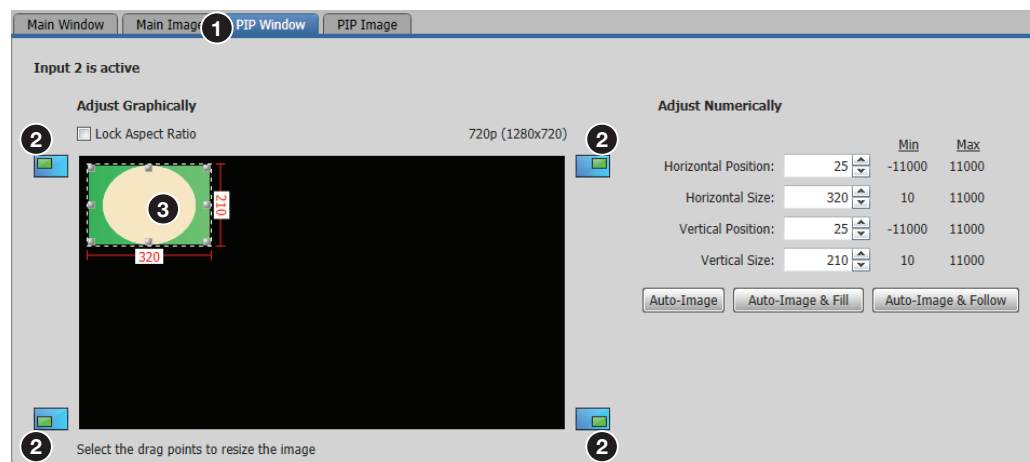

Figure 60. PIP Window Position
- Click the **Auto-Image** button (❺) to perform a one-time Auto-Image.
- Click the **Auto-Image & Fill** button (❻) to perform a one-time Auto-Image and fill the entire video output (ignores aspect ratio settings).
- Click the **Auto-Image & Follow** button (❼) to perform a one-time Auto-Image and to maintain the aspect ratio of the input signal (ignores aspect ratio settings).
For the PIP window (see figure 60, ❶), adjustments can be made automatically to preset positions within the main window, or can be adjusted manually.